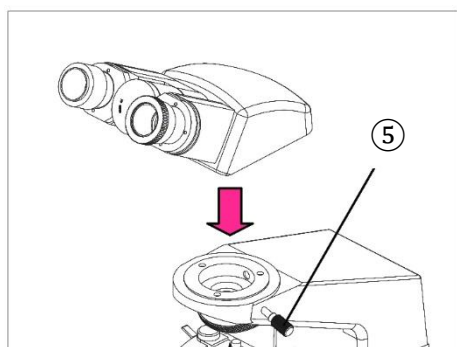
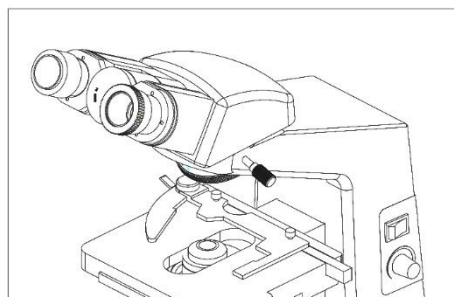

Fig. 2
Fig. 3
3.2.2.Installing binocular viewing head (Fig. 2, Fig. 3)